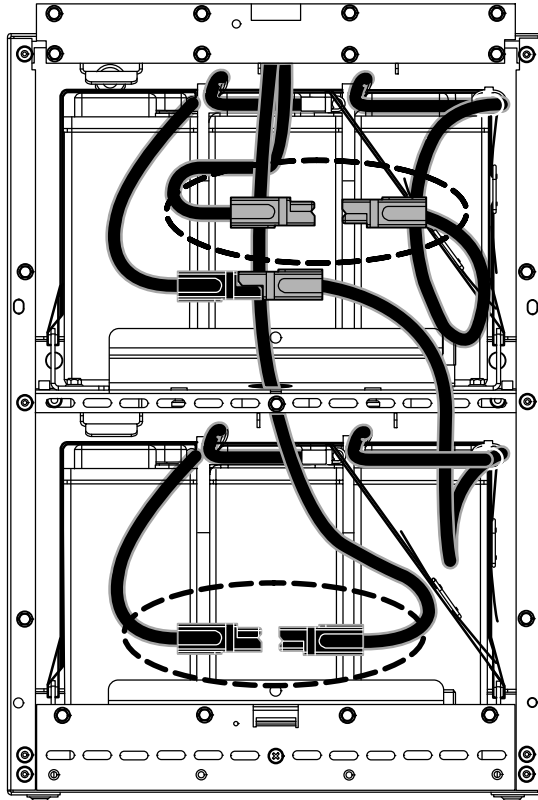

Figure 49. Connecting the Battery Circuit Breaker Wires
21. Connect the wires from the electronics module to the battery terminals, as described below (see Figure 49):